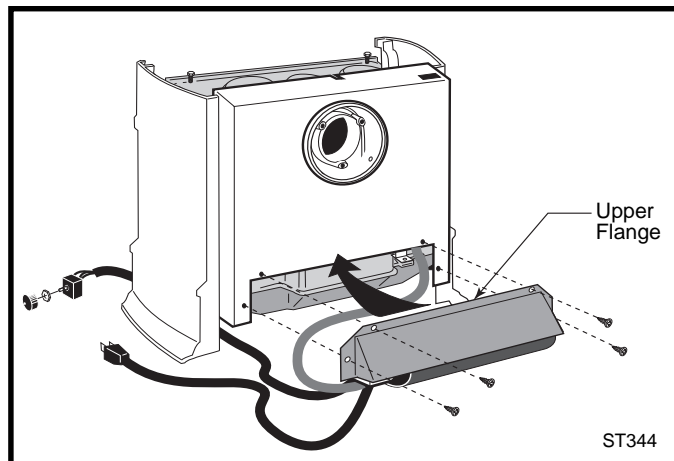

Fig. 7 Place upper flange behind lower edge of shroud.
- Attach the fan to the firebox by engaging the upper flange of the fan skirt under the lower edge of the shroud and secure the skirt with the four screws and one star washer provided. (Fig. 7, 8)